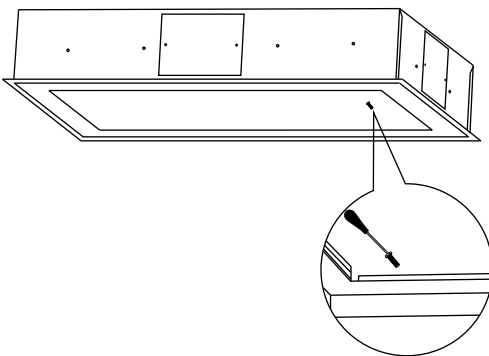

Fig 6
3. Hold the hood up into the cut-out in the ceiling and fix the hood at the 12 fixing points (Fig 6).